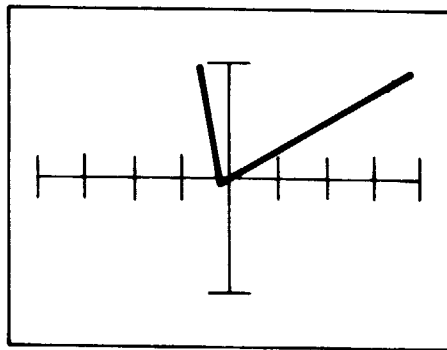

Figure 4-4. Signature of a diode in Low range
31. Insert a diode between the Channel A and Common Test Terminals. The signature should look like Figure 4-4.